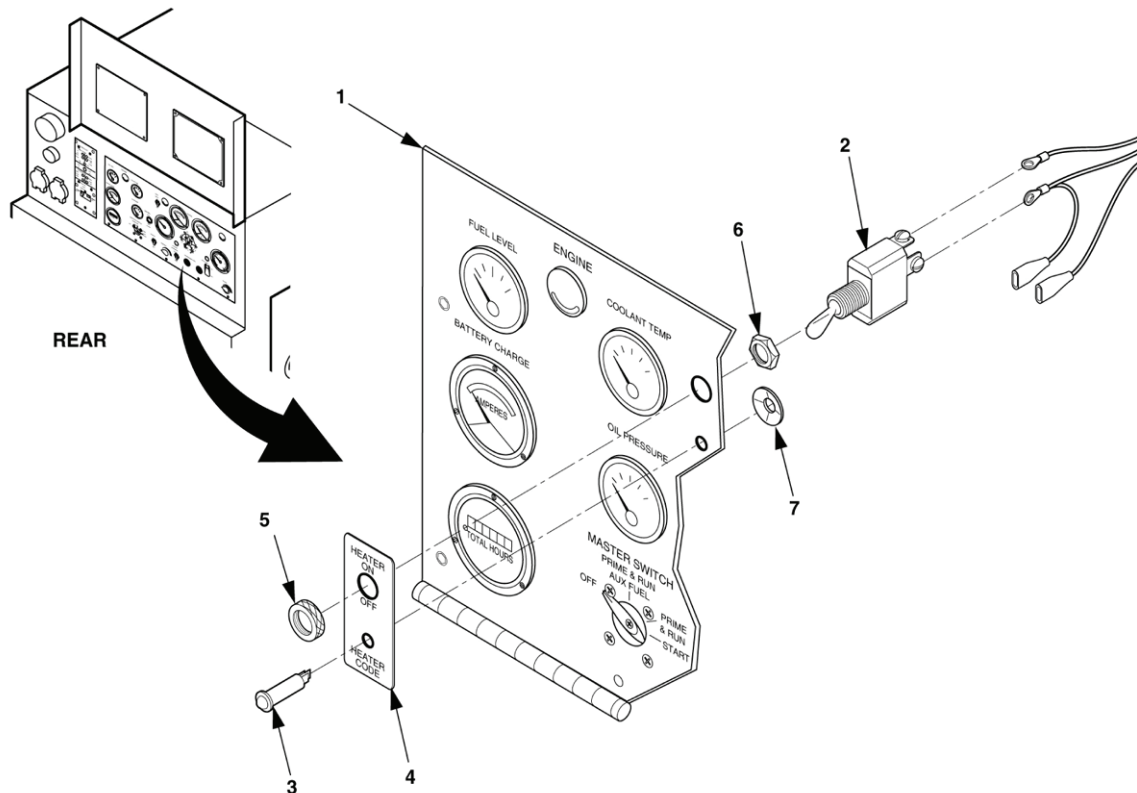

Figure 1. Heater Switch/Heater Switch Plate/Indicator Light Maintenance.
1. Install switch (Figure 1, Item 2), mounting nut (6), knurled nut (5), and reconnect electrical leads to switch (2).
2. Raise and secure control panel (1) and close control box door.
3. At generator control panel (Figure 1, Item 1), tag and disconnect all electrical leads to switch (2).
4. Install indicator light (3) with push on nut (7).
Remove push on nut (Figure 1, Item 7) from indicator light (3).